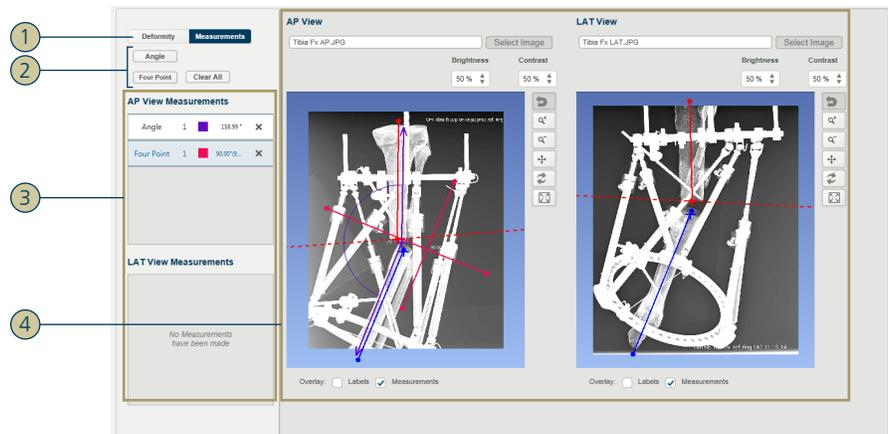

Figure 95 – PFM—Measurements
1. Select the measurement tool (**Angle** or **Four Point**, cf. [2] in figure 95).
1. To modify a measurement, click its entry in the list of measurements (cf. [3] in figure 95 on page 89).
To delete a single measurement, click its **Delete** icon (✕) in the measurement list (cf. [3] in figure 95 on page 89).
To delete all the added measurements in AP and LAT view, click **Clear All** (cf. [2] in figure 95 on page 89).